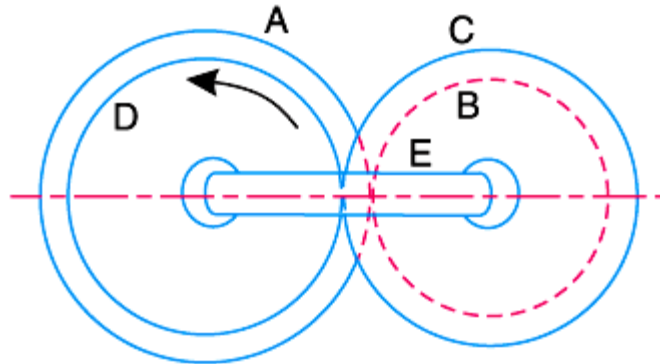

Fig: 10
- b) An epicyclic gear train, as shown in the fig: 10 consists of two sunwheels A and D with 28 and 24 teeth respectively, engaged with a compound planet wheels B and C with 22 and 26 teeth. The sunwheel D is keyed to the driven shaft and the sunwheel A is a fixed wheel co-axial with the driven shaft. The planet wheels are carried on an arm E from the driving shaft which is co-axial with the driven shaft. Find the velocity ratio of gear train. If 0.75 kW is transmitted and input speed being 100 r.p.m., determine the torque required to hold the sunwheel A. [7M]